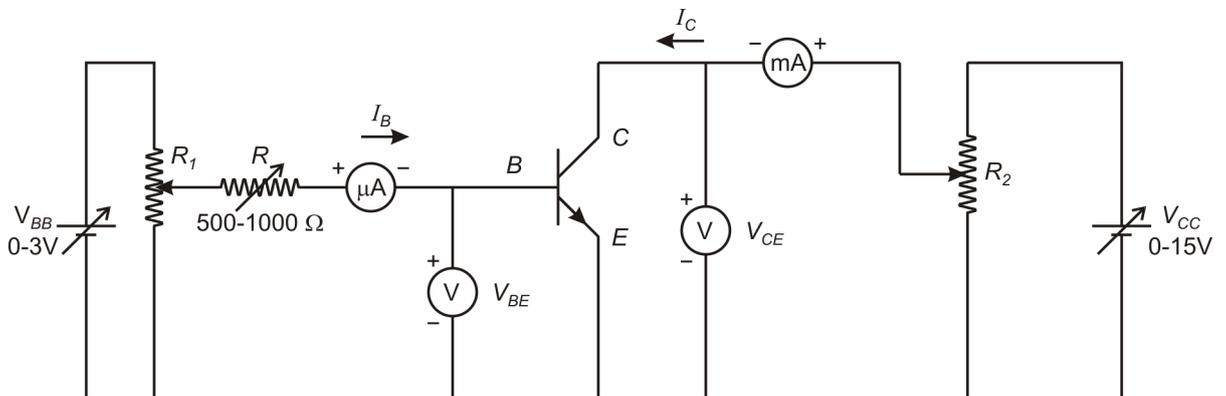

Fig.10.7: Circuit diagram for determining characteristics of a $n-p-n$ transistor in CE-configuration
1. Make the connections as shown in Fig. 10.7. V_{BB} is a variable dc supply of 0-3V and V_{CC} is a variable dc supply of 0-15V. R_1 and R_2 are 2.5 k Ω /2W potentiometers, and R is a variable resistor.
In case a transistor kit is given to you, ensure that the basic circuit given in Fig. 10.7 is in operation. (If you are given a $p-n-p$ transistor, you will have to reverse the polarities of batteries and various meters.) By means of potentiometers R_1 and R_2 , you can adjust the voltage in the base and collector circuits, respectively.
For obtaining output characteristics also, you should use the circuit shown in Fig.10.7 and follow the steps given below: